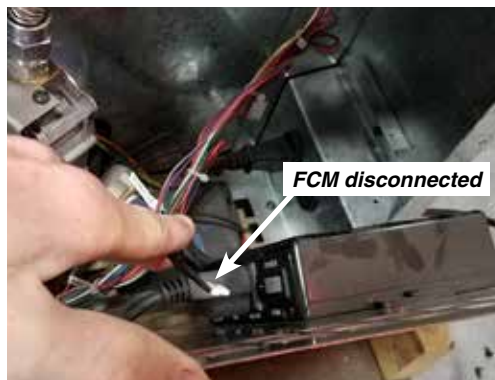

**Figure 13: Remove Right Side Handle & Outside Access Door**
16. From the outside of the unit - remove the right side handle (6 screws) and access cover (10 screws) shown in Figure 13.